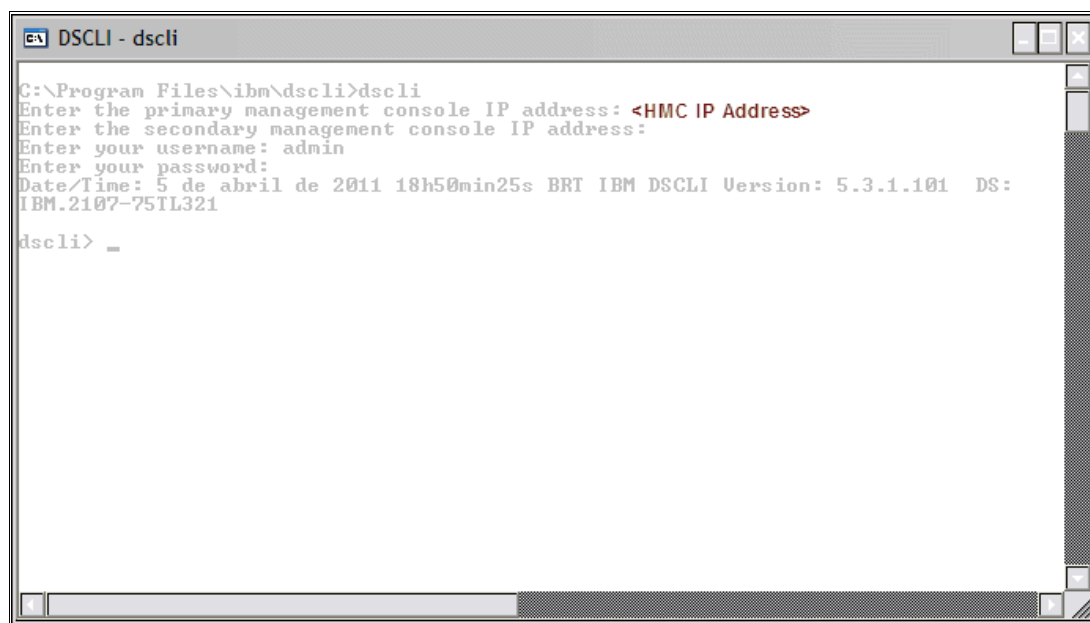

Figure 3-40 DSCLI interface to access DS8000
1. First, access the storage using your preferred management tool, with admin or a user with administrative rights. In our case, we use the DSCLI interface, as shown in Figure 3-40.